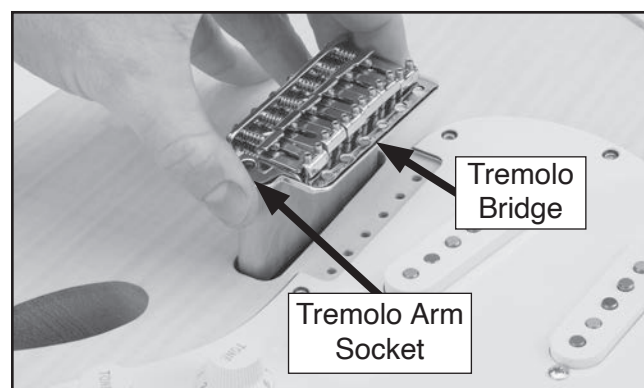

Figure 10. Example of tremolo bridge placement.
1. Place tremolo bridge in cut-out shown in **Figure 10**.